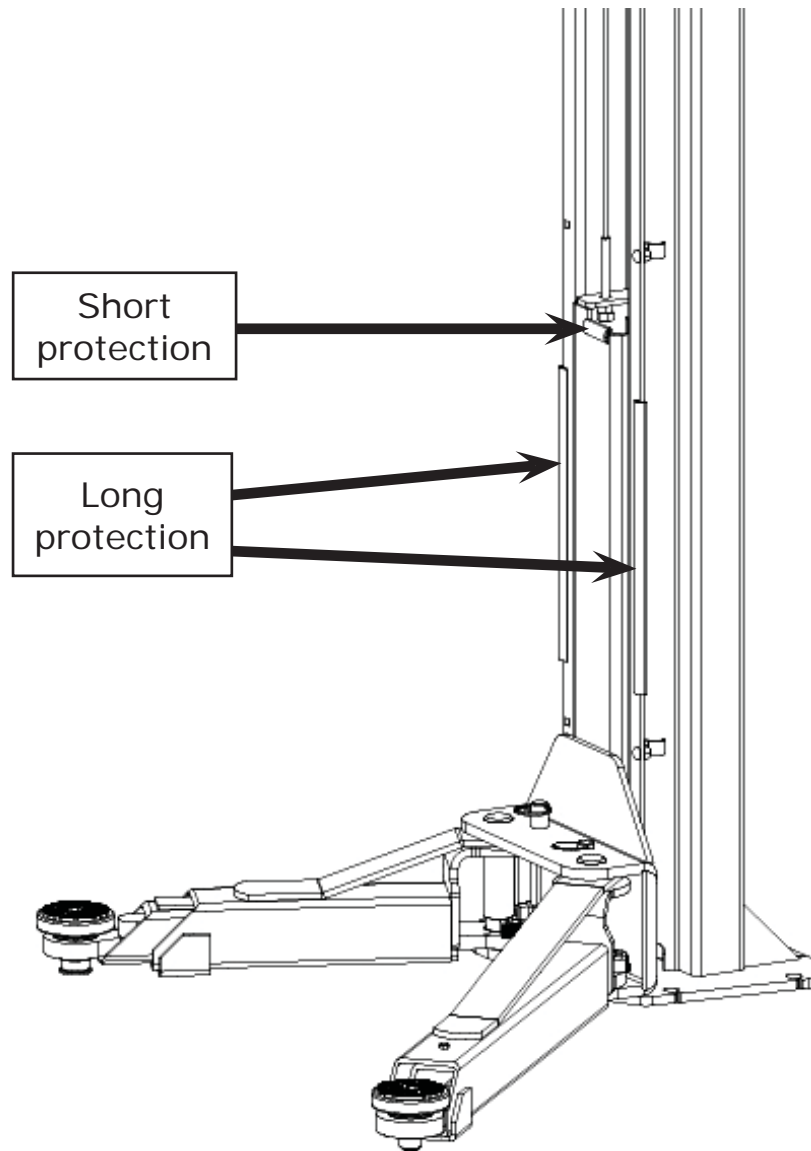

Figure 30
7.17 Installation Of The Rubber Door Protectors (Ref. Fig. 30)